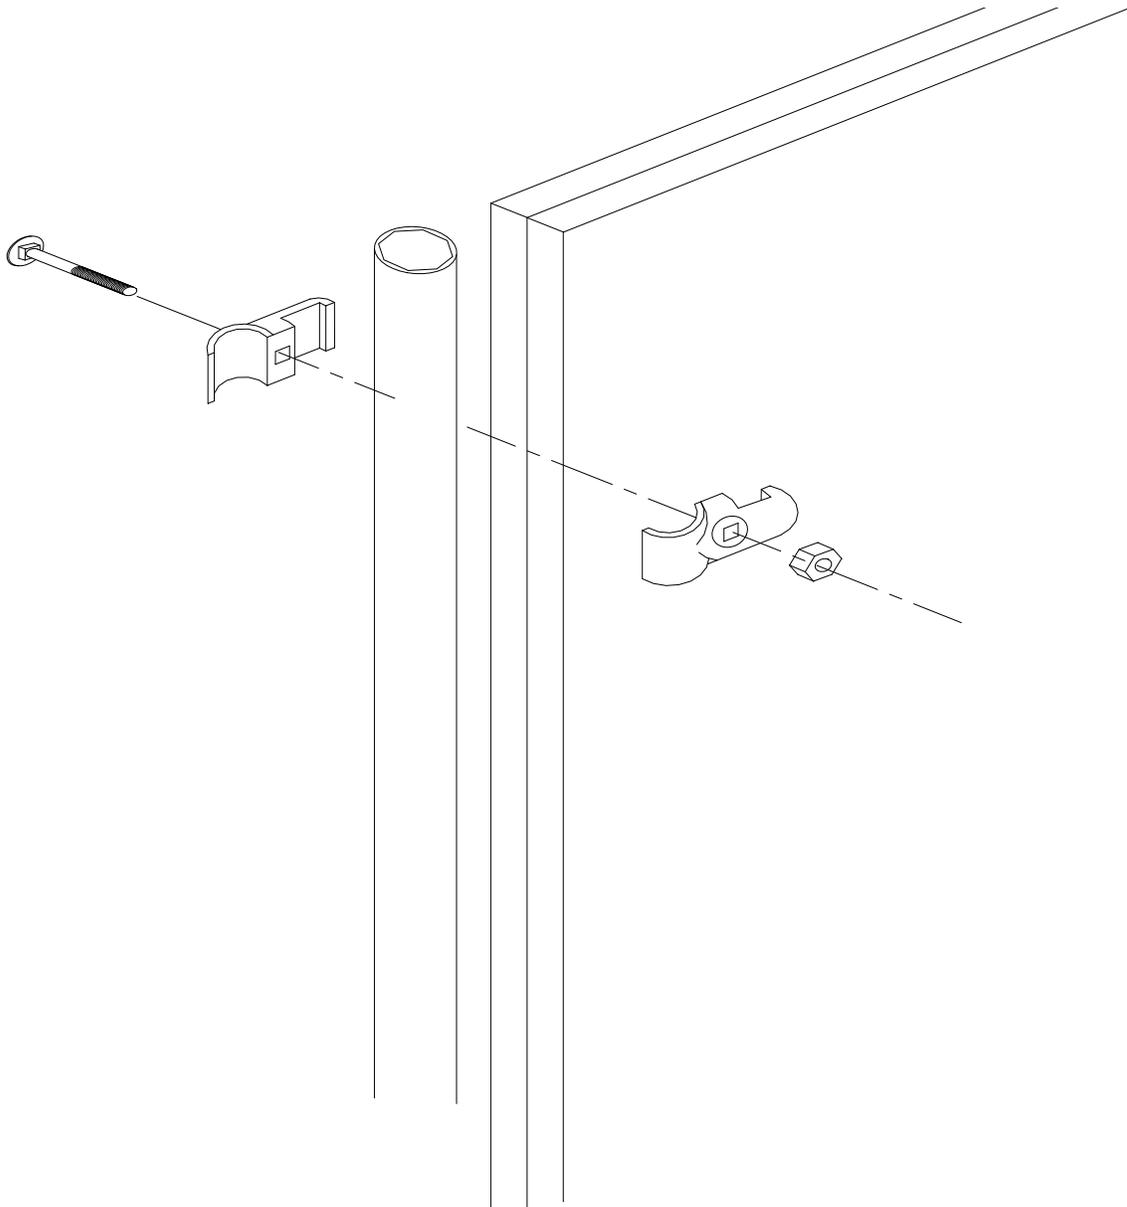

Figure 9
1. Attach the filler pipes to the front end of each division panel with two Square-Round clamps (it takes two halves to make up one clamp) approximately 6" from either end of the filler pipe using the 5/16" x 1-3/4" carriage bolts and 5/16" nuts provided as shown in Figure 9.